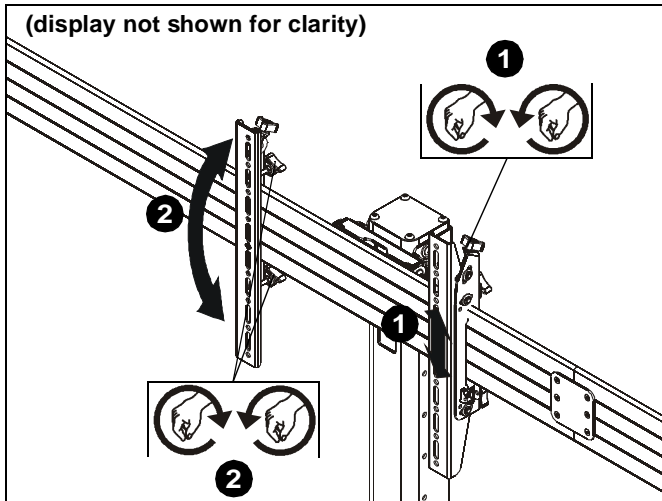

Figure 21
1. Use upper knob on back of interface brackets (AA and BB) to adjust the height of each display. (See Figure 21)
2. Use middle and lower knobs on back of interface brackets (AA and BB) to make plumb adjustments to each display (See Figure 21)